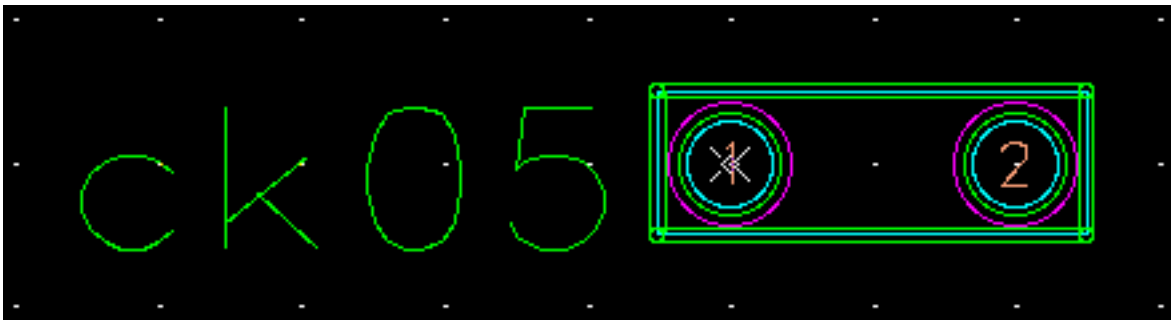

Figure 3-17. Completed Capacitor Geometry
Now you create a geometry for capacitors. You follow almost the exact same procedure you used for the resistor. In this procedure, you are not provided with as detailed instructions as you were when you created the resistor geometry. If you need help, refer to the procedures you used when you created the resistor. Figure 3-17 shows the capacitor geometry you will create.
11. Complete the capacitor by adding the placement outline. Add the placement outline directly on top of the body outline, as shown in Figure 3-17, by clicking the Select mouse button on the four corners of the body outline.